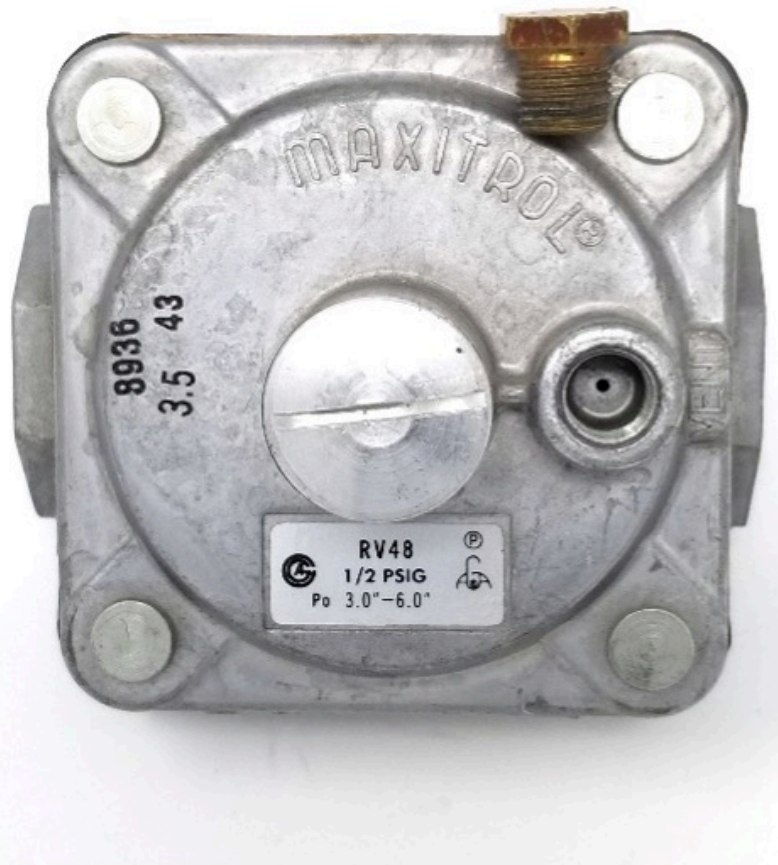

Figure 16. Bleed vent with an external vent limiting orifice
Larger regulators will have a larger bleed vent orifice to accommodate the greater amount of air that must move in and out through the bleed vent. This larger orifice will not adequately limit the escape of gas in the event of a diaphragm rupture. Therefore, when these regulators are installed indoors they must either be vented to outdoors or have some type of vent leak limiter installed. Figure 16 shows a fixed vent limiting orifice accessory sitting on the regulator, notice the regulators larger internal orifice size. The vent limiting orifice has a very small orifice opening that will restrict the air flow which will delay the regulators reaction time. To accommodate this slower reaction time the manufacture will reduce the maximum rated individual appliance capacity the regulator when using this accessory. If this regulator was required to respond at its full capacity for any single appliance then the vent limiting orifice could not be used and the vent would need to terminate outside or use an automatic vent leak limiting device.
- Figure 16. “Bleed vent with an external vent limiting orifice” by Camosun College is licensed under a CC BY-NC-SA licence.